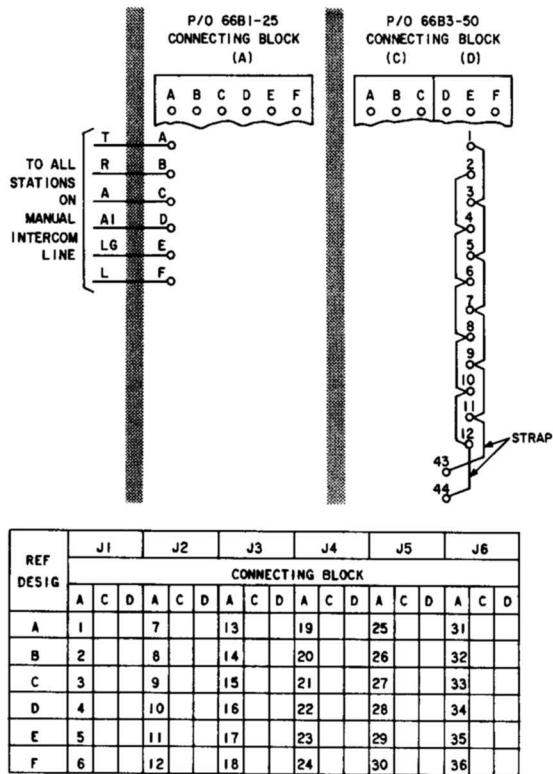

Fig. 4—Connections for Manual Intercom Circuit, 401A KTU
4.05 Connections for the manual intercom circuit (401A KTU) are shown in Fig. 4.